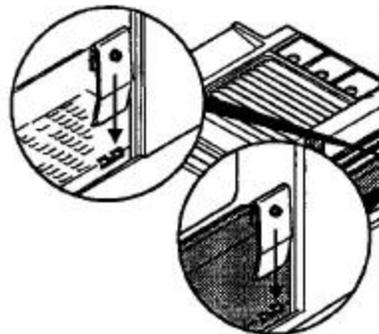

Figure 4
1. Insert the clamp bracket in the front recess of the box cover, (see Figure 4).